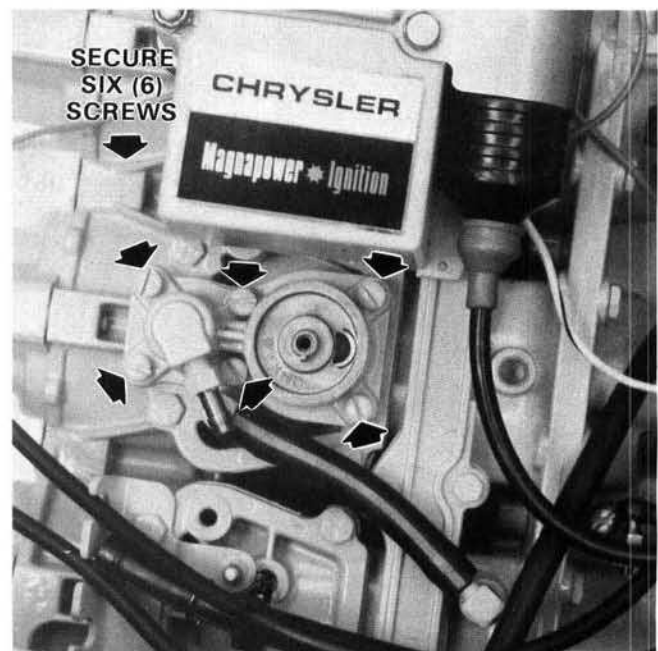

Figure 10. Installing Fuel Pump Body to Cover.
- B. Install fuel pump body on fuel pump cover and secure with six (6) screws. Figure 10.